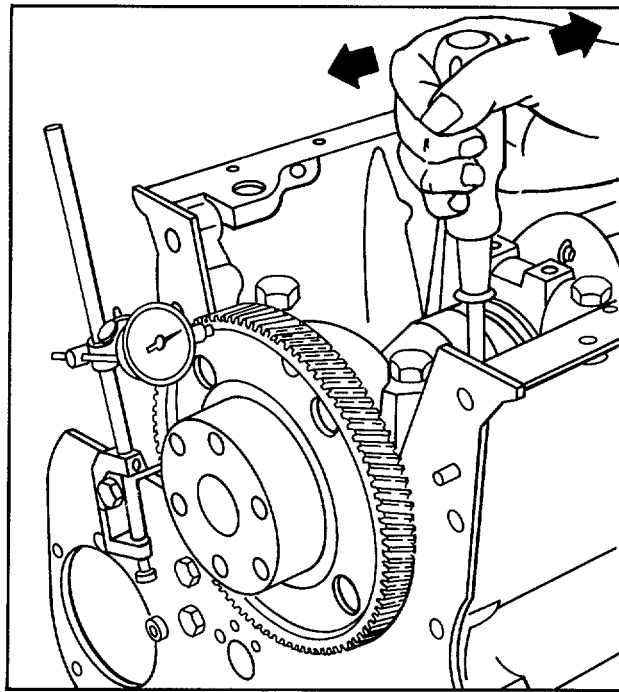

Figure 9. Checking Crankshaft End Play
7. Check the crankshaft end play by moving the crankshaft toward the gage (Fig. 9) with a pry bar. Keep a constant pressure on the pry bar and set the dial indicator to zero. Then